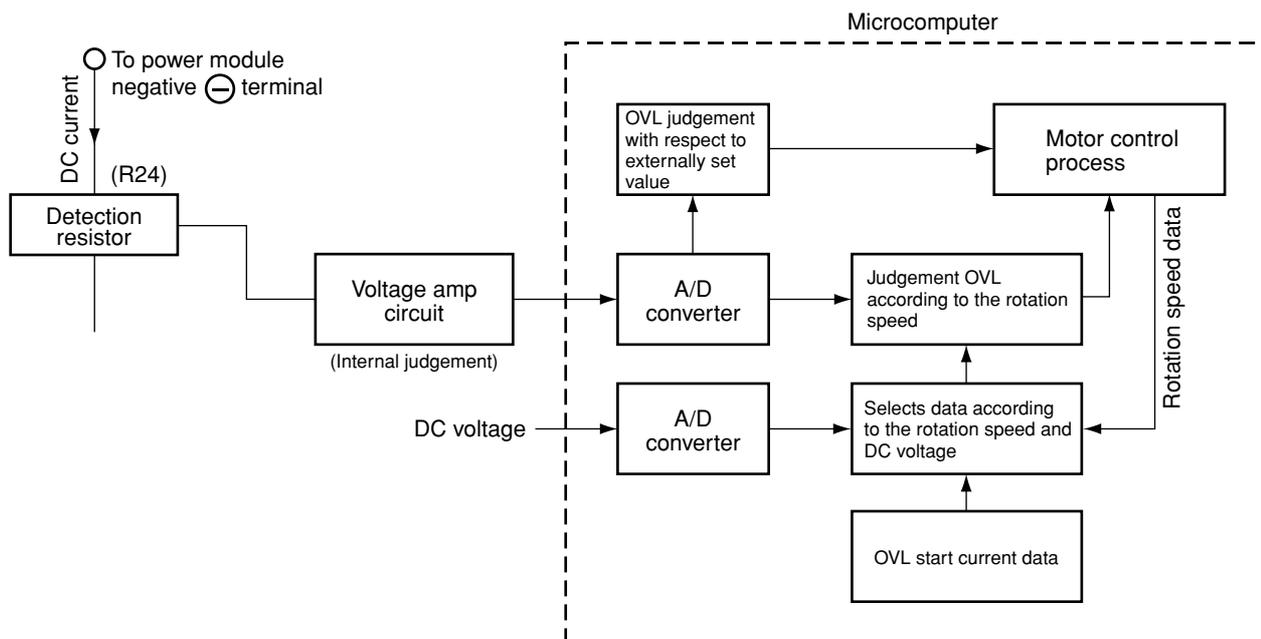
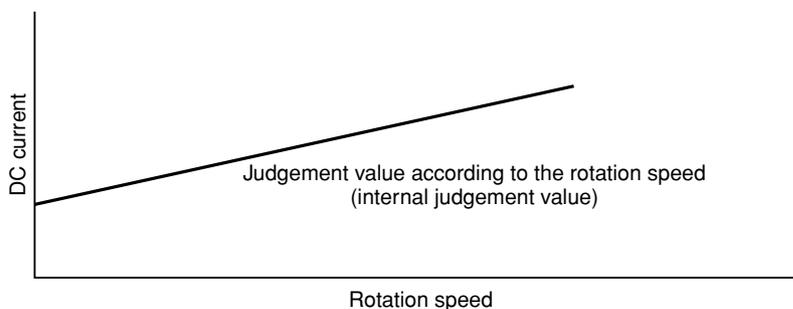

Fig. 8-4 Overload Control System Configuration
Fig. 8-5
- As shown in diagram, if current exceeding 21A flows, voltage at point (A) recognized by detecting resistor is input to pin ⑩ of SPM2 – HIC, and voltage divided by R41 and R43 is input to pin ⑨ of IC1. Since threshold of IC1 is exceeded in this case, Lo signal is input from pin ⑧ (Voltage at point (B)). When Lo signal is input to pin ⑰ of microcomputer, microcomputer stops drive output.
(2) Overload control circuit (OVL control circuit)
- Fig. 8-4 shows the overload control system configuration and Fig. 8-5 is a characteristic diagram of overload judgement values. There are two judgement methods-external judgement which compares the externally set value with the DC current value regardless of the rotation speed and internal judgement which compares the set value that varies according to the rotation speed programmed in the microcomputer software with the DC current value.